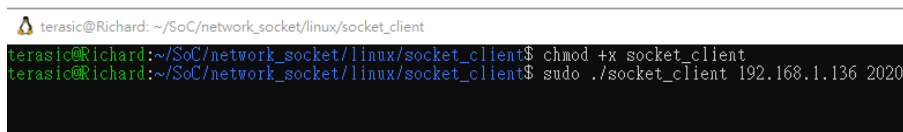

Figure 3-43 Start Client Program
5. Then, type “./socket_client <ip address> 2020” to launch the client program to connect to the Host server with port number 2020 as shown in **Figure 3-43**.